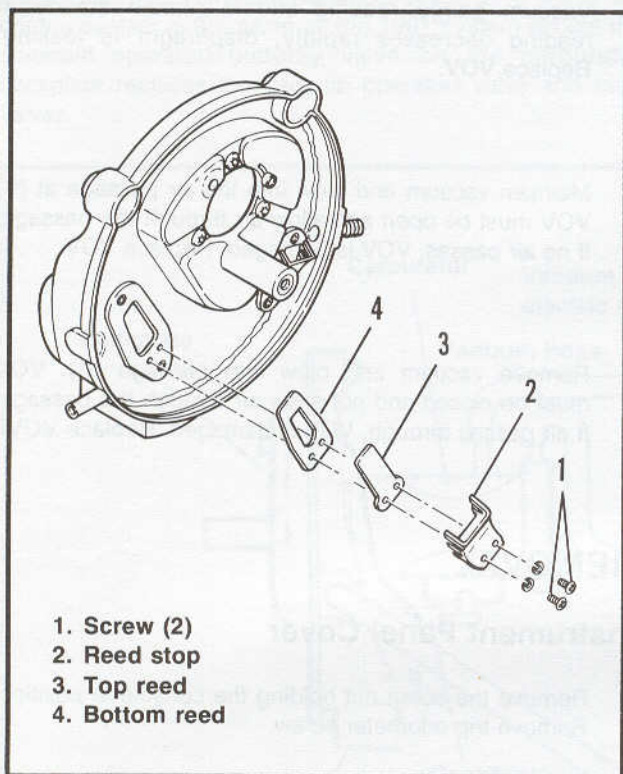

Figure 4-21. Reed Valve(s) - 1991
1. See Figure 4-21. Remove screws (1), reed stop (2) and top and bottom reeds (3 and 4).